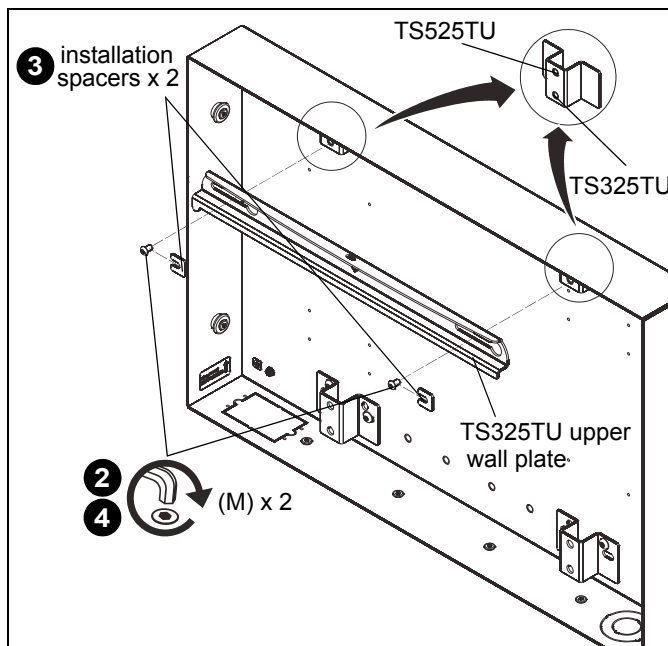
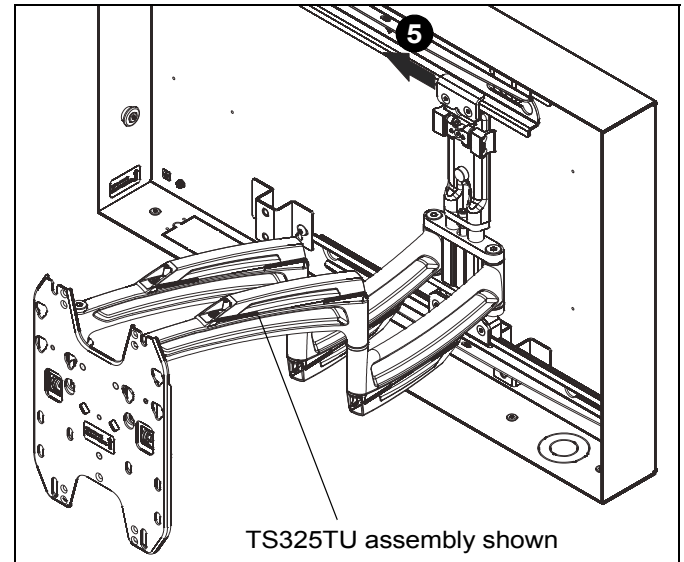

Figure 9
Figure 10
2. Use two 5/16-18 x 1/2" button head cap screws (M) to loosely attach upper wall plate of TS325TU/TS525TU to upper attachment brackets (N). (See Figure 9)
IMPORTANT ! : Install to upper bracket holes for TS525TU and lower bracket holes for TS325TU. See Inset on Figure 9.
3. Place two installation spacers (included with TS325TU/TS525TU) over two 5/16-18 x 1/2" button head cap screws (M). (See Figure 9)
4. Tighten two screws (M) to secure upper wall plate to upper attachment brackets.
5. Slide TS325TU/TS525TU assembly onto upper wall plate of TS325TU/TS525TU. (See Figure 10)